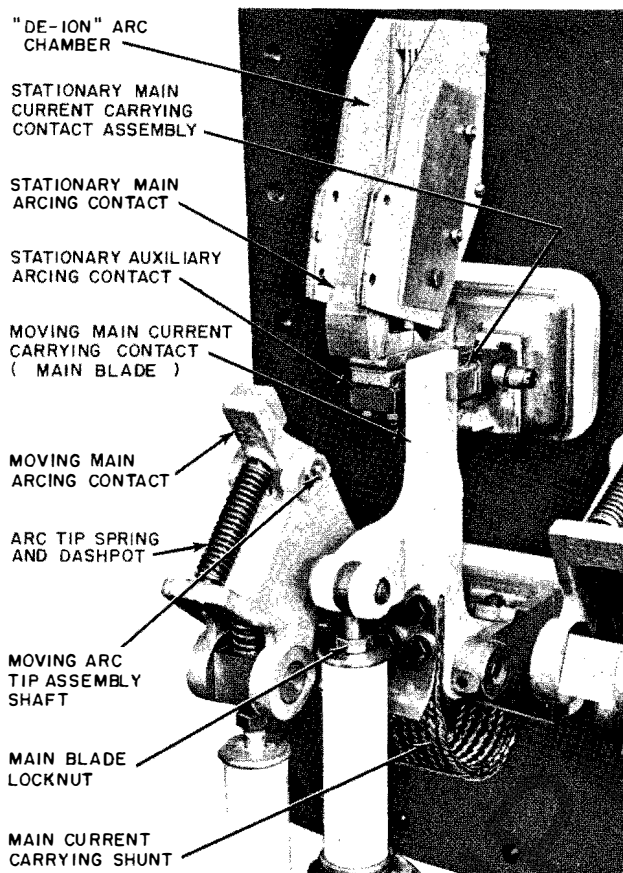

Fig. 3 "URT" Tap Changer Transfer Switch
2. Remove retaining ring and flat washer from one end of 3/8 inch diameter moving arc tip shaft. See Fig. 3.
1. Remove the two arc chamber mounting bolts and pivot the front of the arc chamber upward. See Fig. 3.